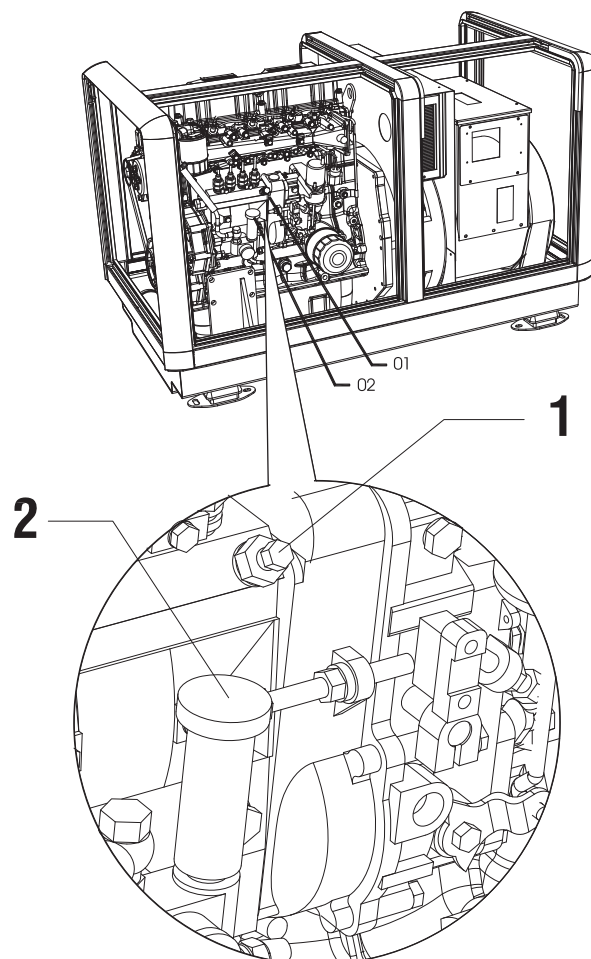

Fig. 20: Bleeding fuel lines
- 2 Loosen the air bleeding screw (1) 1,5 turns . See Fig 20.
- 3 Unlock liftpump plunger (2) (See fig 20) by turning it to the left.